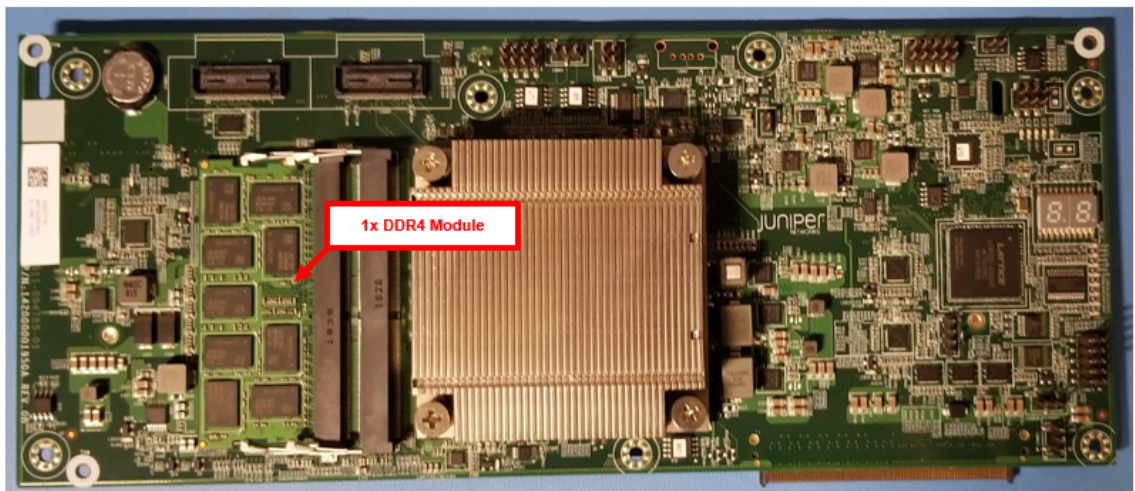

Figure 3-9. Locate volatile storage device on CPU board
9. Locate volatile storage device on CPU board (Figure 3-9).